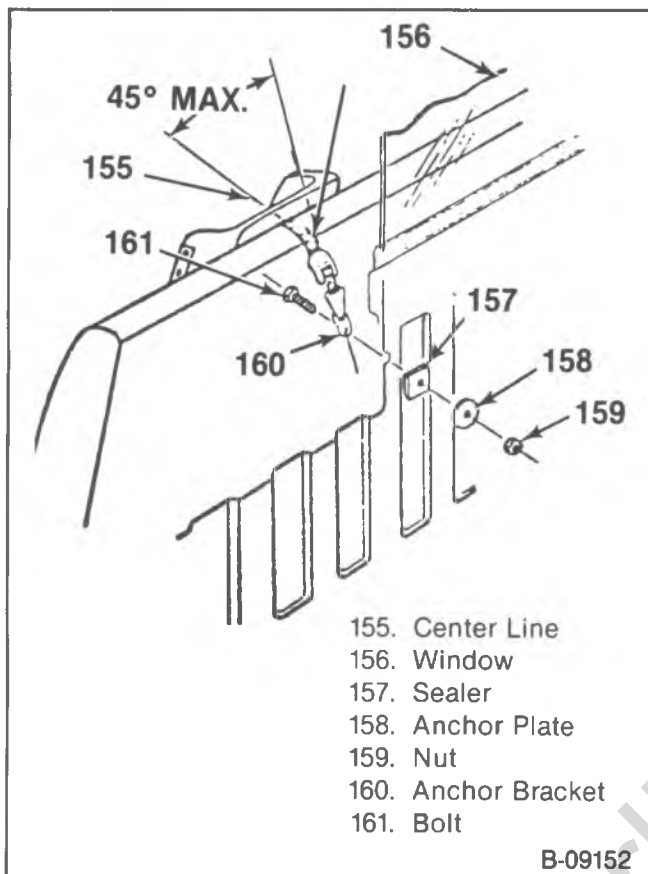

Figure 27—Pickup Top Strap Belt Components
1. Place the Child Seat in the front seating position (rear seating position on crew cab models) (figure 27).